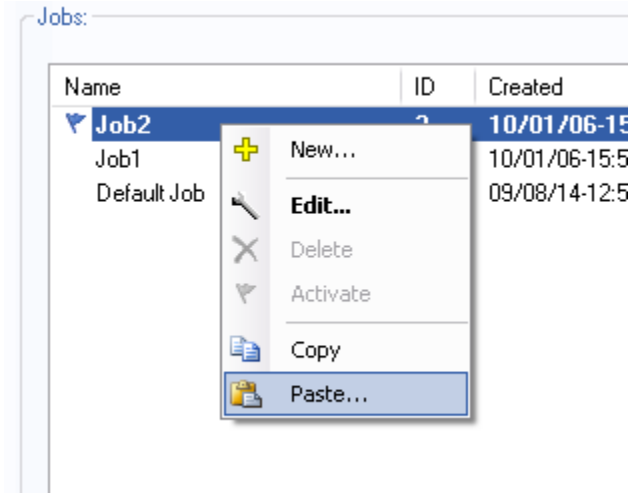

Figure 5-6 - Pasting a job
- Right-click the job and select *Paste...* (see FIGURE 5-6)